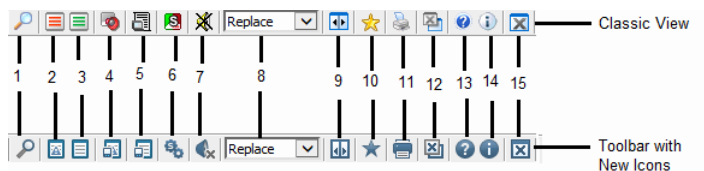

Figure 6. Operator Workplace Toolbar
2. Add required tools and displays. The toolbar's size is limited, so if you add too many tools, all of them might not be visible. Application shortcuts will also be located on the same row as the tools. Favorites on the other hand, can be placed on a new row in the bar. An example of a toolbar in an Operator Workplace is displayed in Figure 6. See also the section Application Bar on page 30.